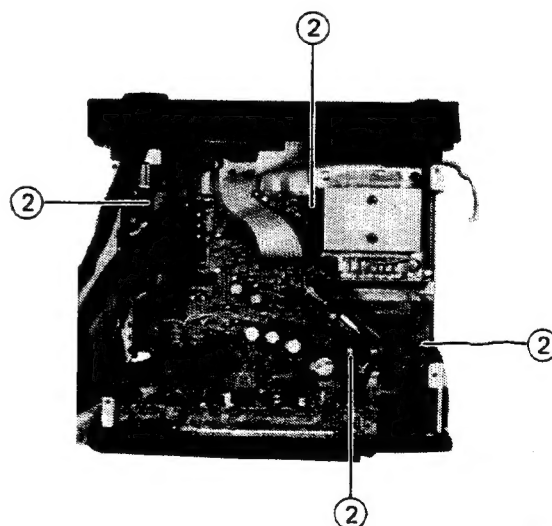

Fig. 3
2. Remove 4 screws ② fastening the system control and power amplifire P.C.board.(Fig.3)